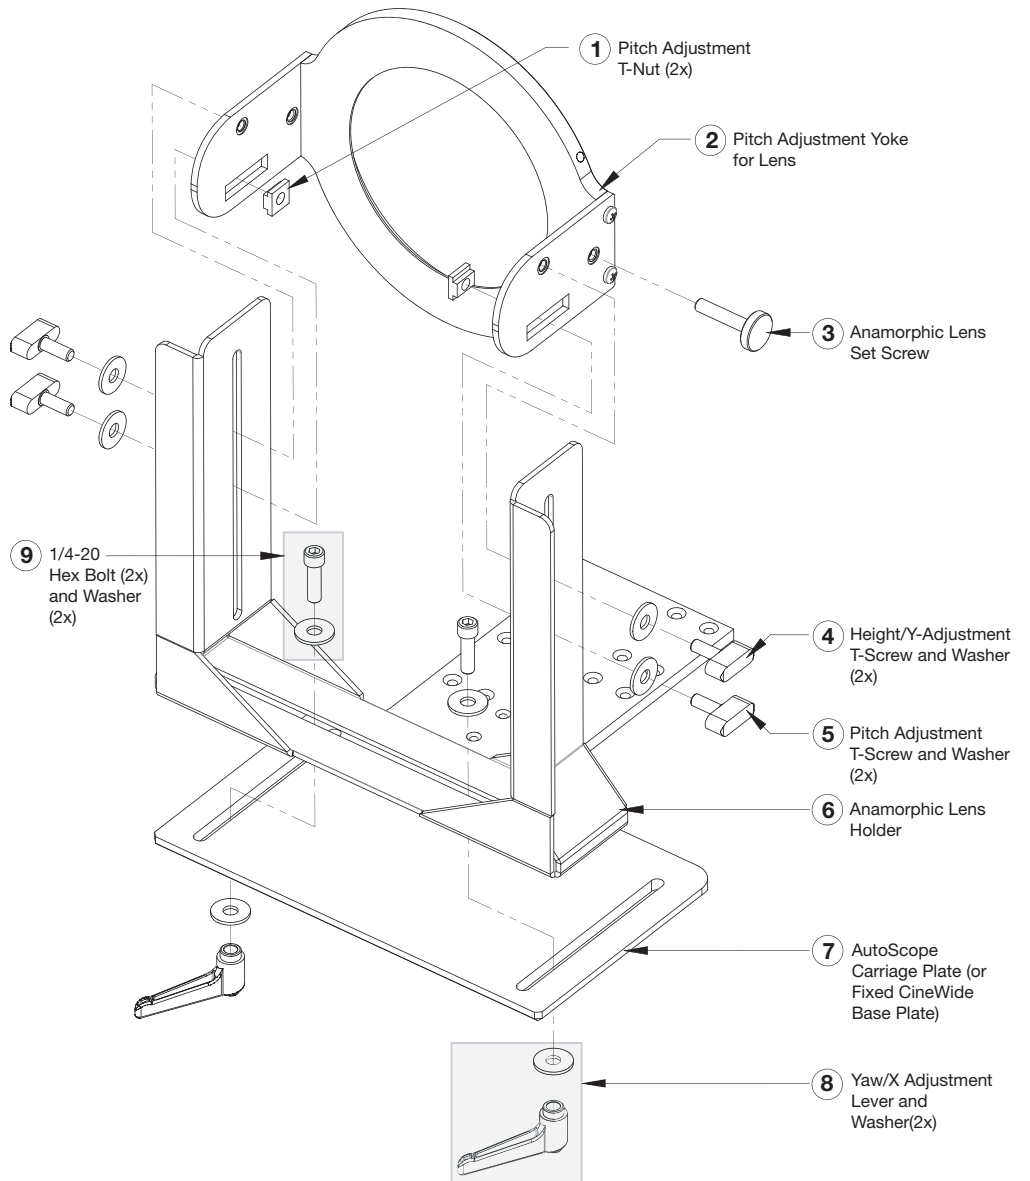

Figure 3-18. Cylindrical Anamorphic Lens Mounting Assembly - Exploded View
The Cylindrical Anamorphic lens mount kit consists of everything shown in Figure 3-18. Some components shipped with your projector may differ slightly from what is shown in these instructions. If any items are missing or damaged, please contact your Runco dealer or Runco Customer Service at (800) 23-RUNCO.